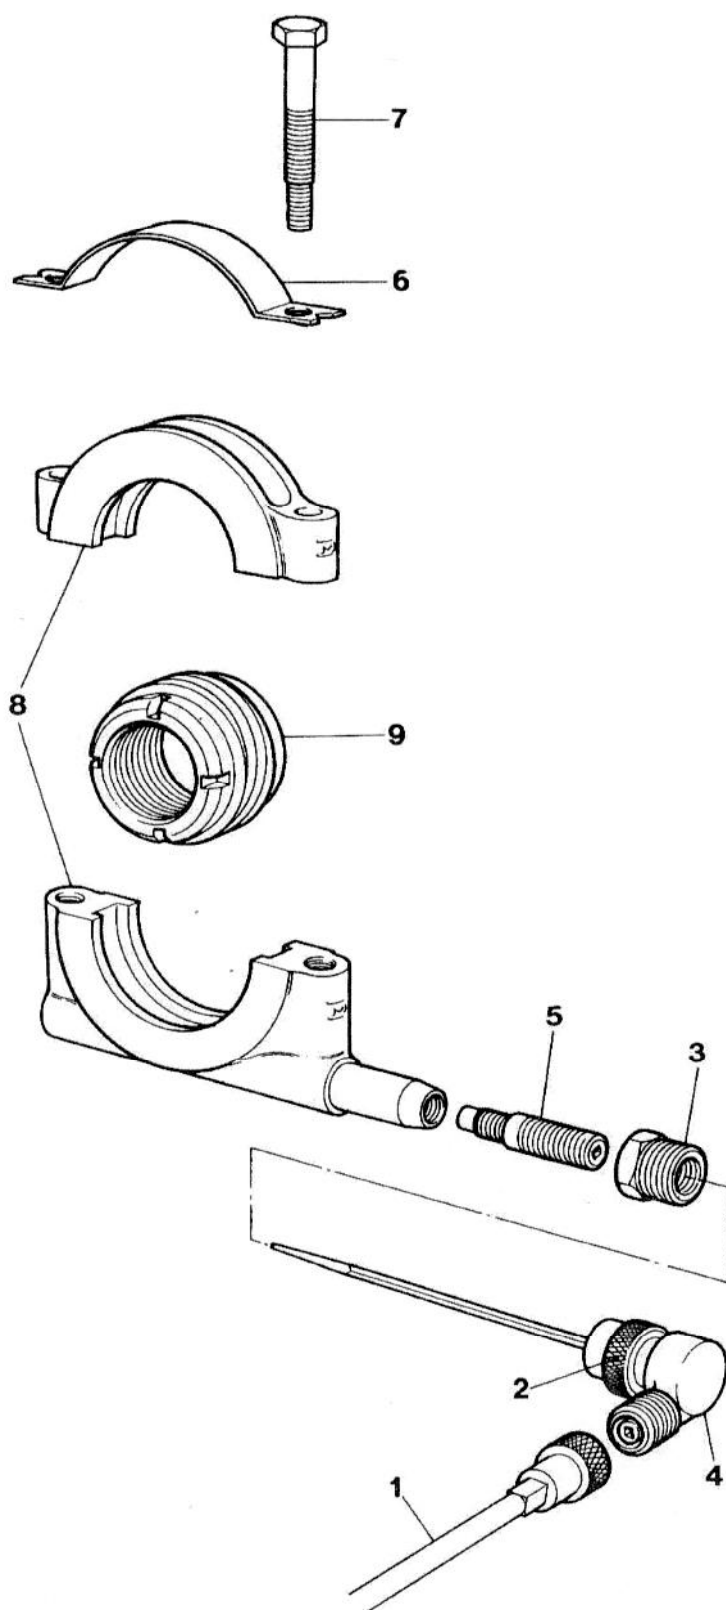

FIG. 39
1. (Fig. 39) Disconnect the speedometer drive cable (1) from the speedometer and the gearbox (4).